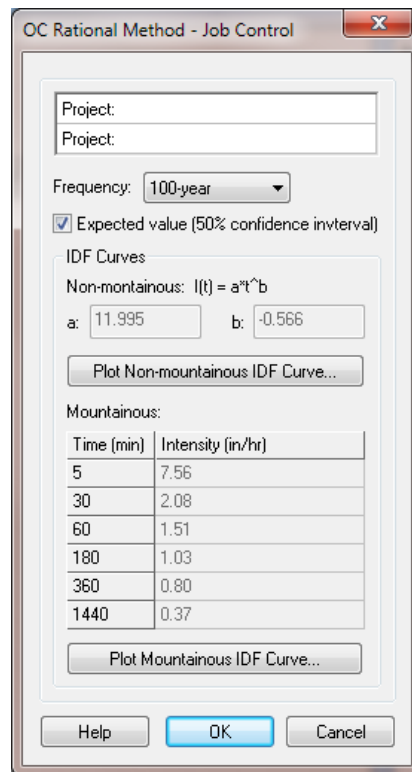

Figure 2 Job Control dialog
Before running a model, the global parameters must be set. These parameters include the return-period of the storm event and whether or not an expected value analysis is being run. These parameters can be set in the Job Control dialog (Figure 2).
5. Toggle on *Expected value*. Users *Job Control* windows should now look identical to Figure 2.